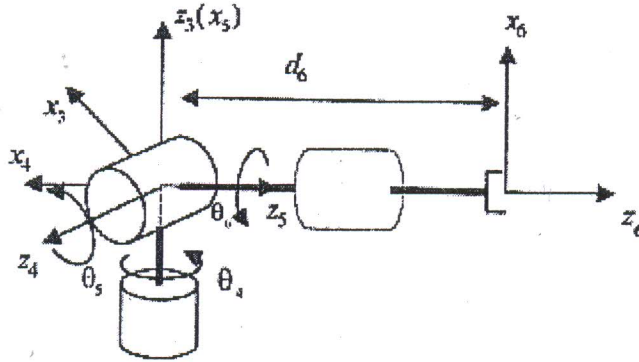

Figure 4: A spherical wrist with three rotary joints
- (b) A spherical wrist with three rotary joints is shown in **Figure 4**, where the joint axes Z_3 , Z_4 and Z_5 intersect at one point. The arm parameters are given in **Table 2**. Compute the Jacobian matrix J .